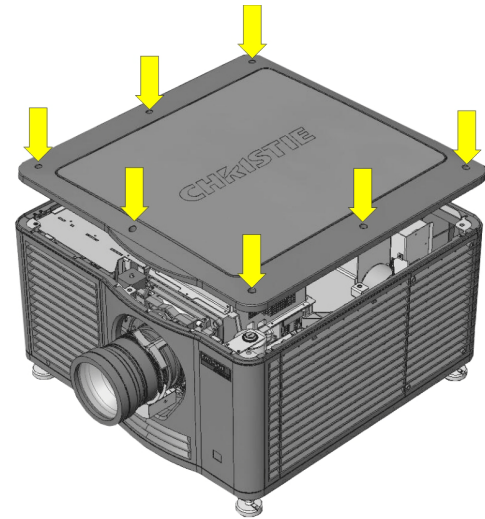

Figure 7 Remove Top Lid
2. Use a #2 Phillips™ to loosen the 7 captive screws securing the top lid to the projector housing (**Figure 7**).